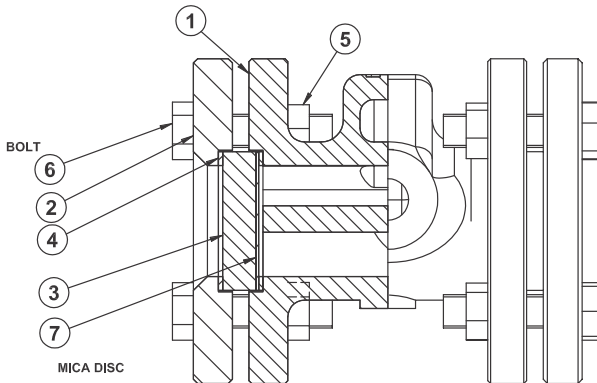

Figure 1: Forbes Marshall View Glass
6. Maintenance Guidelines: (Refer to Figure 1)